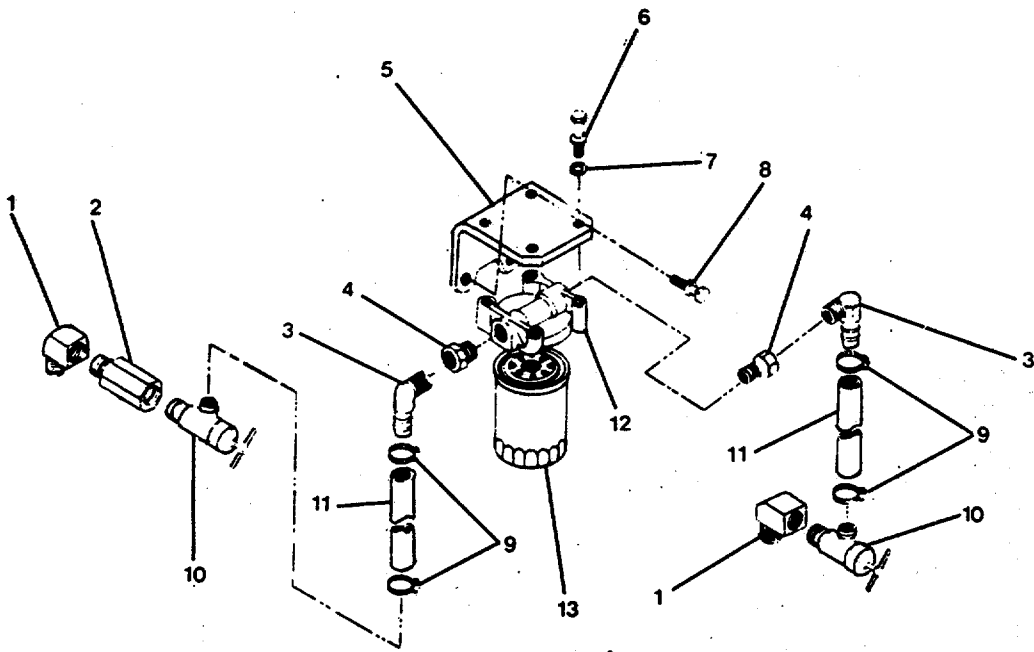

FIGURE 2-13. Water Filter Group.
- (1) Install wiring harnesses (14, 15, 16) that were removed. Make sure all wires are connected to proper locations.
- (2) Position panel box (12) in the mounting bracket (9) and install the washers and nuts (8) on each corner of the panel box (12). Secure the screws.
- (3) Plug in harnesses (14, 15, 16), to the panel box (12).
- (4) Connect all electrical wiring to engine.
- (5) Connect thermocouple (7). Close panel front and secure the two pinhead screws (3).
**2-23. Replace/Repair Water Filter Group. (FIGURE 2-13)**